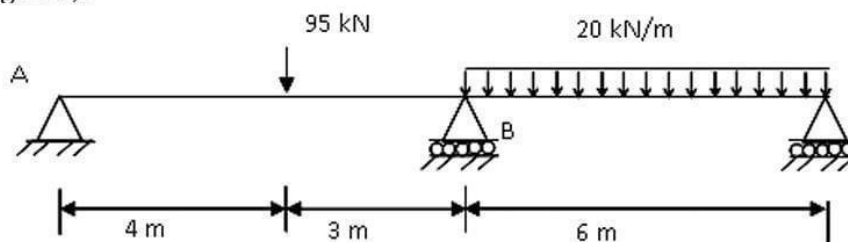

Figure 8
11. Draw the influence diagram for the middle support moment M_B and determine its value (figure 8). [10]